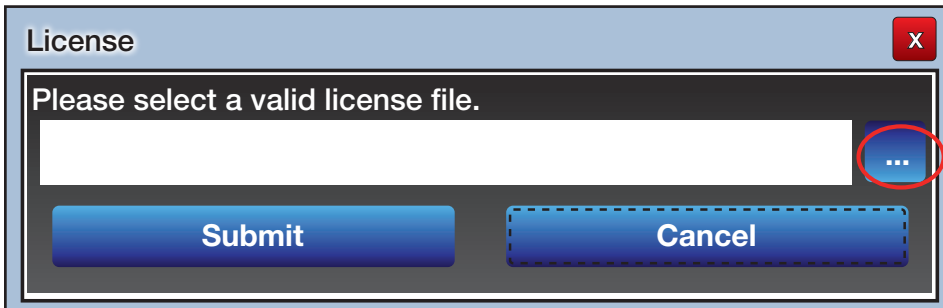
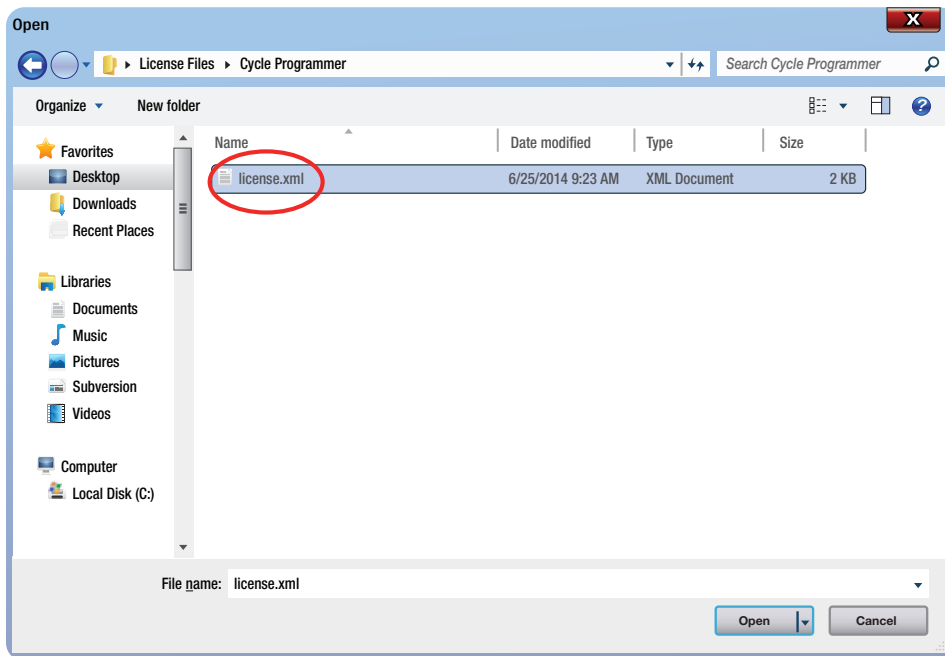
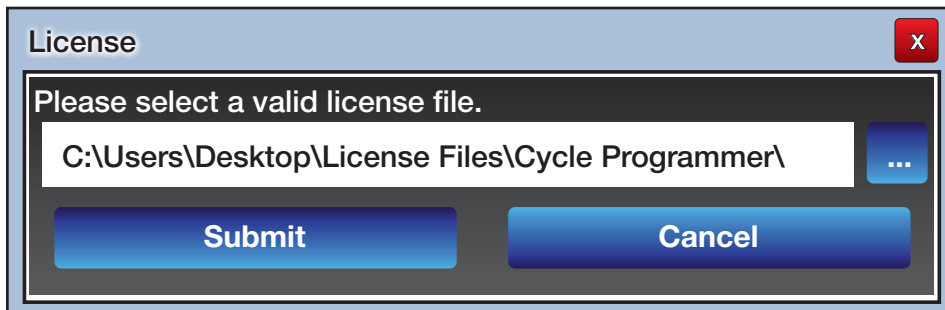

Figure 34.
Figure 35.
Figure 36.
10. Install the company-specific license file obtained from 3M. Click on the **Browse** button (Figure 34) and locate the license file (Figure 35). Highlight the license file; click **Open** (Figure 35), then **Submit** (Figure 36). Once loaded, the 3M Cycle Programmer is ready for use. Install the 3M Cycle Programmer on an unlimited number of computers within the same company location using the same license file; however, the license agreement prohibits distribution of the 3M Cycle Programmer outside the registered company site.